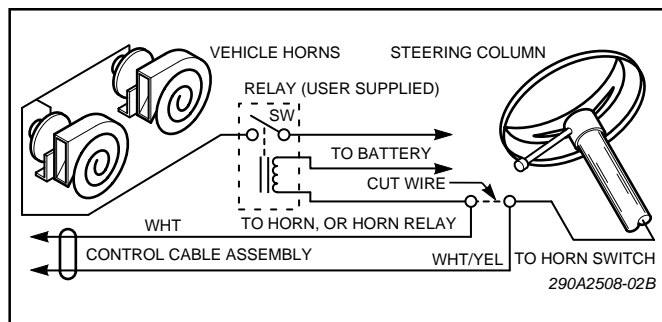

Figure 3-7. Horn Ring Connections.
b. See figure 3-7. Splice the **white/yellow** power cable wire to the **horn ring side** of the wire that was cut in step a. Insulate the splice with the wire nuts (supplied).
Refer to figure 3-7 while performing the following steps.